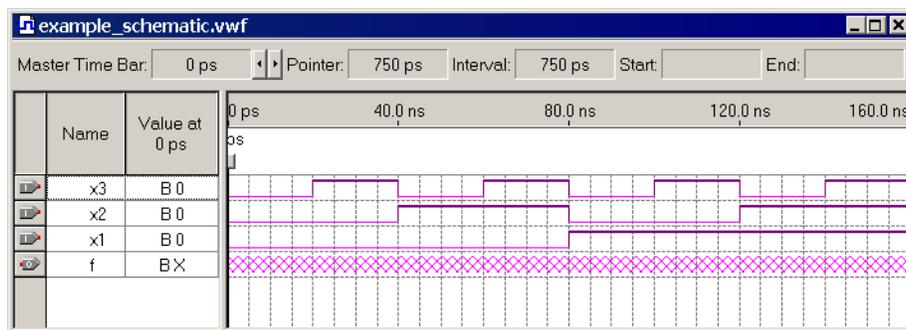

Figure B.23. The complete test vectors.
To simulate the behavior of a large circuit, it is necessary to apply a sufficient number of input valuations and observe the expected values of the outputs. The number of possible input valuations may be huge, so it is necessary to choose a relatively small (but representative) sample of these input valuations. (The topic of circuit testing is explored in Chapter 11.) Our circuit is very small, so it can be simulated fully by applying all eight possible valuations of inputs  $x_1$ ,  $x_2$ , and  $x_3$ . Let us apply a new valuation every 20 ns. To start, all inputs are zero. At the 20-ns point we want  $x_3$  to go to 1. Click on  $x_3$ ; this highlights the signal and activates the vertical toolbar that allows us to shape the selected waveform. The toolbar provides options such as setting the signal to 0, 1, unknown (X), high impedance (Z), don't care (DC), and inverting its existing value (INV). Observe that the output  $f$  is displayed as having an unknown value at this time, which is indicated by a hashed pattern. A specific time interval is selected by pressing the mouse on a waveform at the start of the interval and dragging it to its end; the selected interval is highlighted. Select the interval from 20 to 40 ns for  $x_3$  and set the signal to 1. Similarly, set  $x_3$  to 1 from 60 to 80 ns, 100 to 120 ns, and 140 to 160 ns. Next, set  $x_2$  to 1 from 40 to 80 ns, and from 120 to 160 ns. Finally, set  $x_1$  to 1 from 80 to 160 ns. Complete the remaining assignments to obtain the image in Figure B.23 and save the file.
Functional simulation of the Verilog code is done in exactly the same way as the simulation described earlier for the design created with schematic capture. Create a new Waveform Editor file and select **File | Save As** to save the file with the name *example\_verilog.vwf*. Following the procedure given in section B.3.3, import the nodes in the project into the Waveform Editor. Draw the waveforms for inputs  $x_1$ ,  $x_2$ , and  $x_3$  shown in Figure B.23. It is also possible to open the previously drawn waveform file *example\_schematic.vwf* and then “copy and paste” the waveforms for  $x_1$ ,  $x_2$ , and  $x_3$ . The procedure for copying waveforms is described in **Help**; it follows the standard Windows procedure for copying and pasting. We should also note that since the contents of the two files are identical, we can simply make a copy of the *example\_schematic.vwf* file and save it under the name *example\_verilog.vwf*.